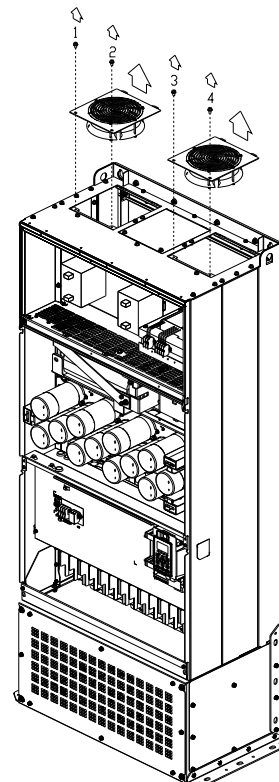

Figure 4
4. Loosen screws 1~4 (as shown below) and remove the fan. Make sure the fan is disconnected when removing. Screw torque: 24~26kg-cm / [20.8~22.6 lb-in.] / [2.4~2.5 Nm] (figure 4)